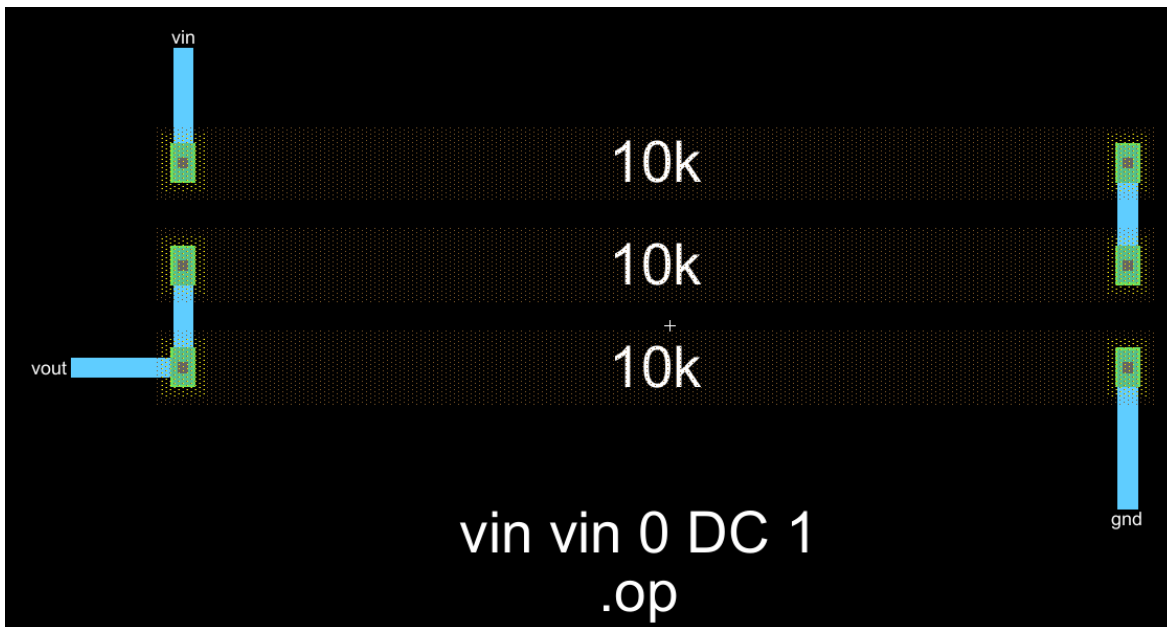

Figure 1.4: Layout of R-2R Divider
- Figure 1.4 is the layout of the 10k n-well resistors in its serpentine shape to replicate the R-2R divider.